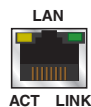

Figure 8. RJ-45 Ethernet Connector
- G RJ-45 LAN connector** — Connect one end of an RJ-45 cable to the LAN (Ethernet) connector on the SMD 101 (see figure 8). Connect the other end of the RJ-45 cable to a router or switch to connect the SMD 101 to a network.